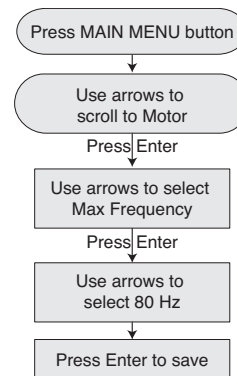

Figure 8-10: Select 80 Hz (Three-phase submersible operation only)
- ◆ Follow the keypress sequence shown in Figure 8-10.